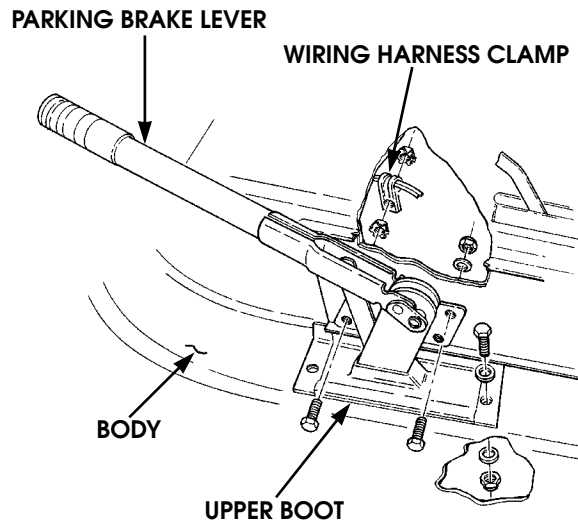

Figure 7-41: Parking Brake Hand Lever Mounting
5. Remove nut and lockwasher assembly, wiring harness clamp, nut and lockwasher assembly, and bolt securing parking brake hand lever to body. Discard nut and lockwasher assemblies (Figure 7-41).